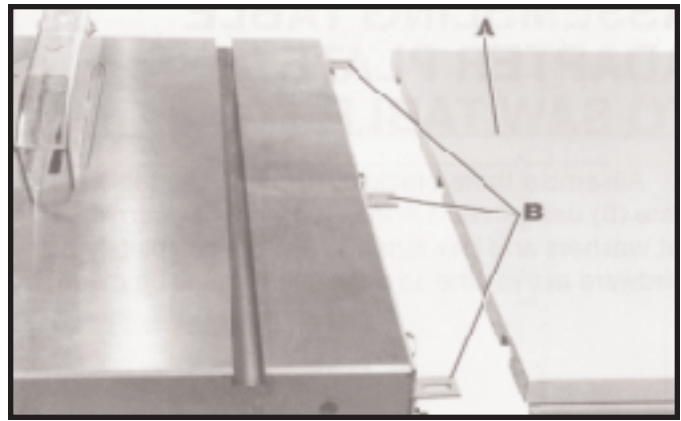
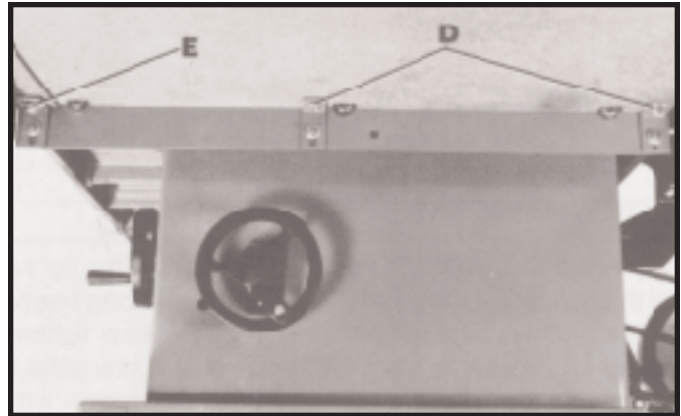

Fig. 11
Fig. 12
1. Remove #14 x 3/4 inch-long screw (E) Fig. 12, which was installed in STEP 5, page 4.
2. Assemble Unifence table (A) Fig. 11, to brackets (B) using two #14 x 3/4 inch-long screws (D) and screw (E) which was removed in STEP 1, Fig. 12. NOTE: The two screws (D) Fig. 12, can be tightened; screw (E) should be left slightly loose at this time. CAUTION: Overtightening screws in particle board may cause them to strip.